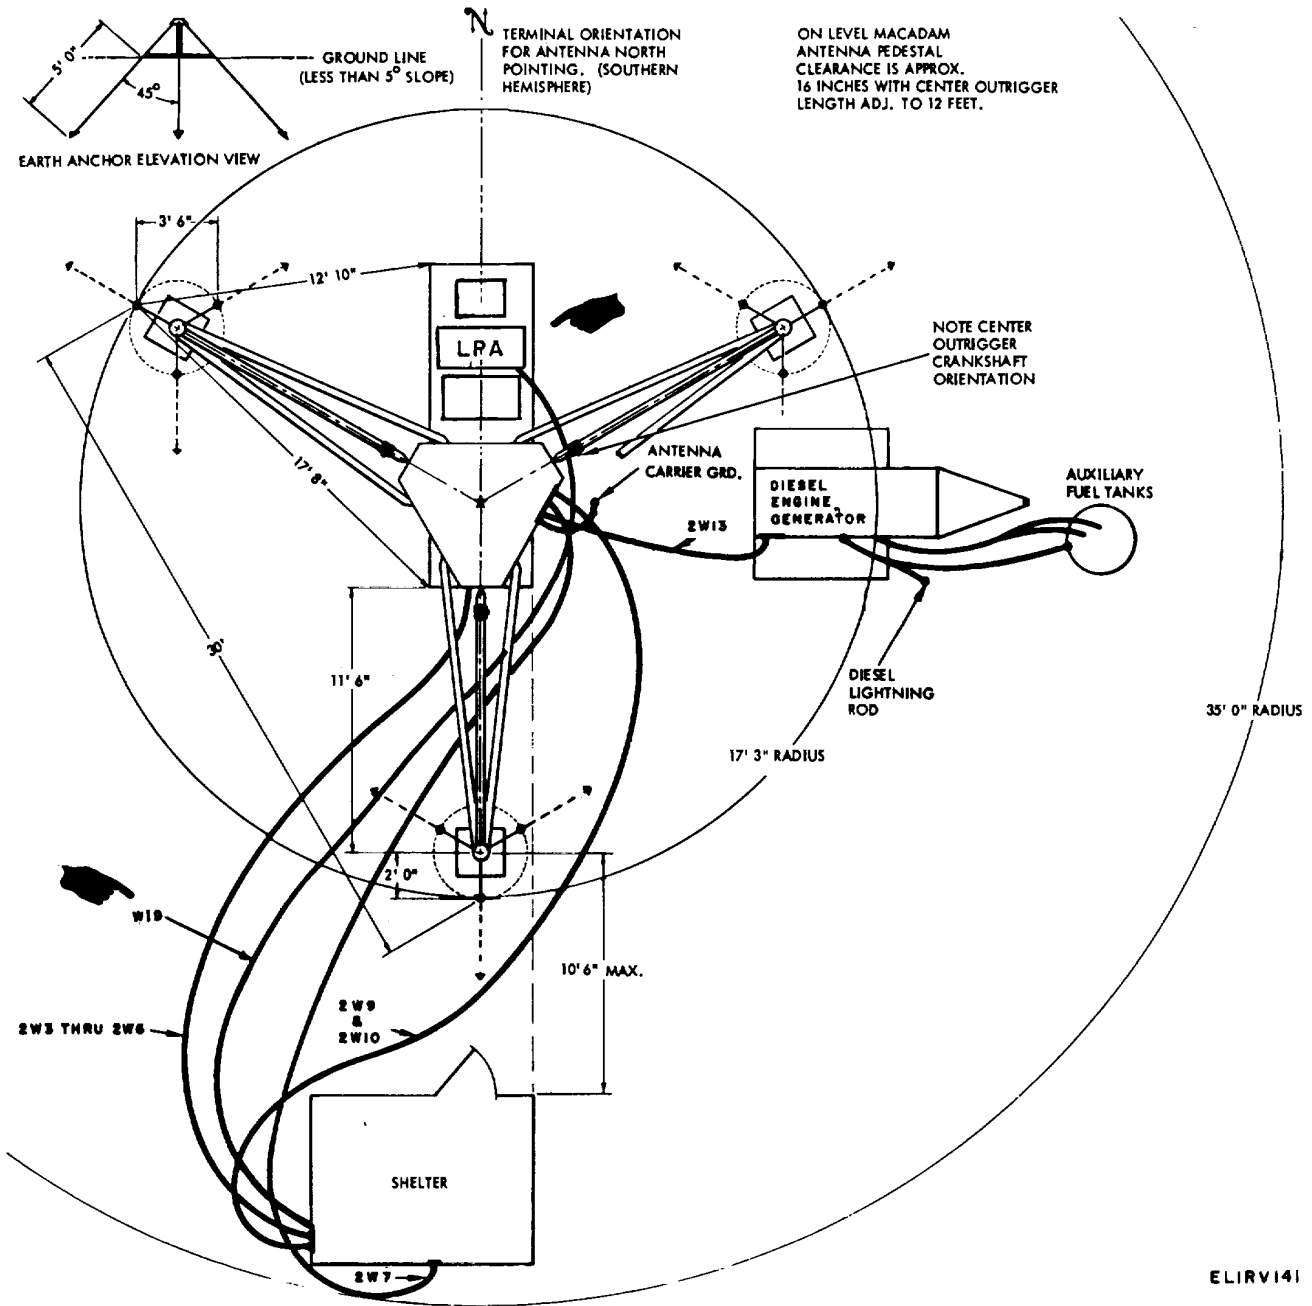

Figure 2-1. Site layout dimensional
The location for operation of Satellite Communications Terminal AN/TSC-54 depends on the tactical situation, terrain, proximity and direction of enemy positions, and other local considerations. A typical terminal layout, with dimensional data, is shown in figure 2-1. When selecting a site, consider the following requirements:
c. Remove the DIELGUIDE transit cases, the instrumentation box, equipment transit cases, and cable reels from the antenna carrier. Set the transit cases and cable reels about 20 feet from the antenna carrier to allow clearance for installation of the three outriggers (fig. 2-1).
Be sure to locate the center outrigger sections correctly. The orientation of the jackscrew on one of the outriggers is reversed as shown in figure 2-1.